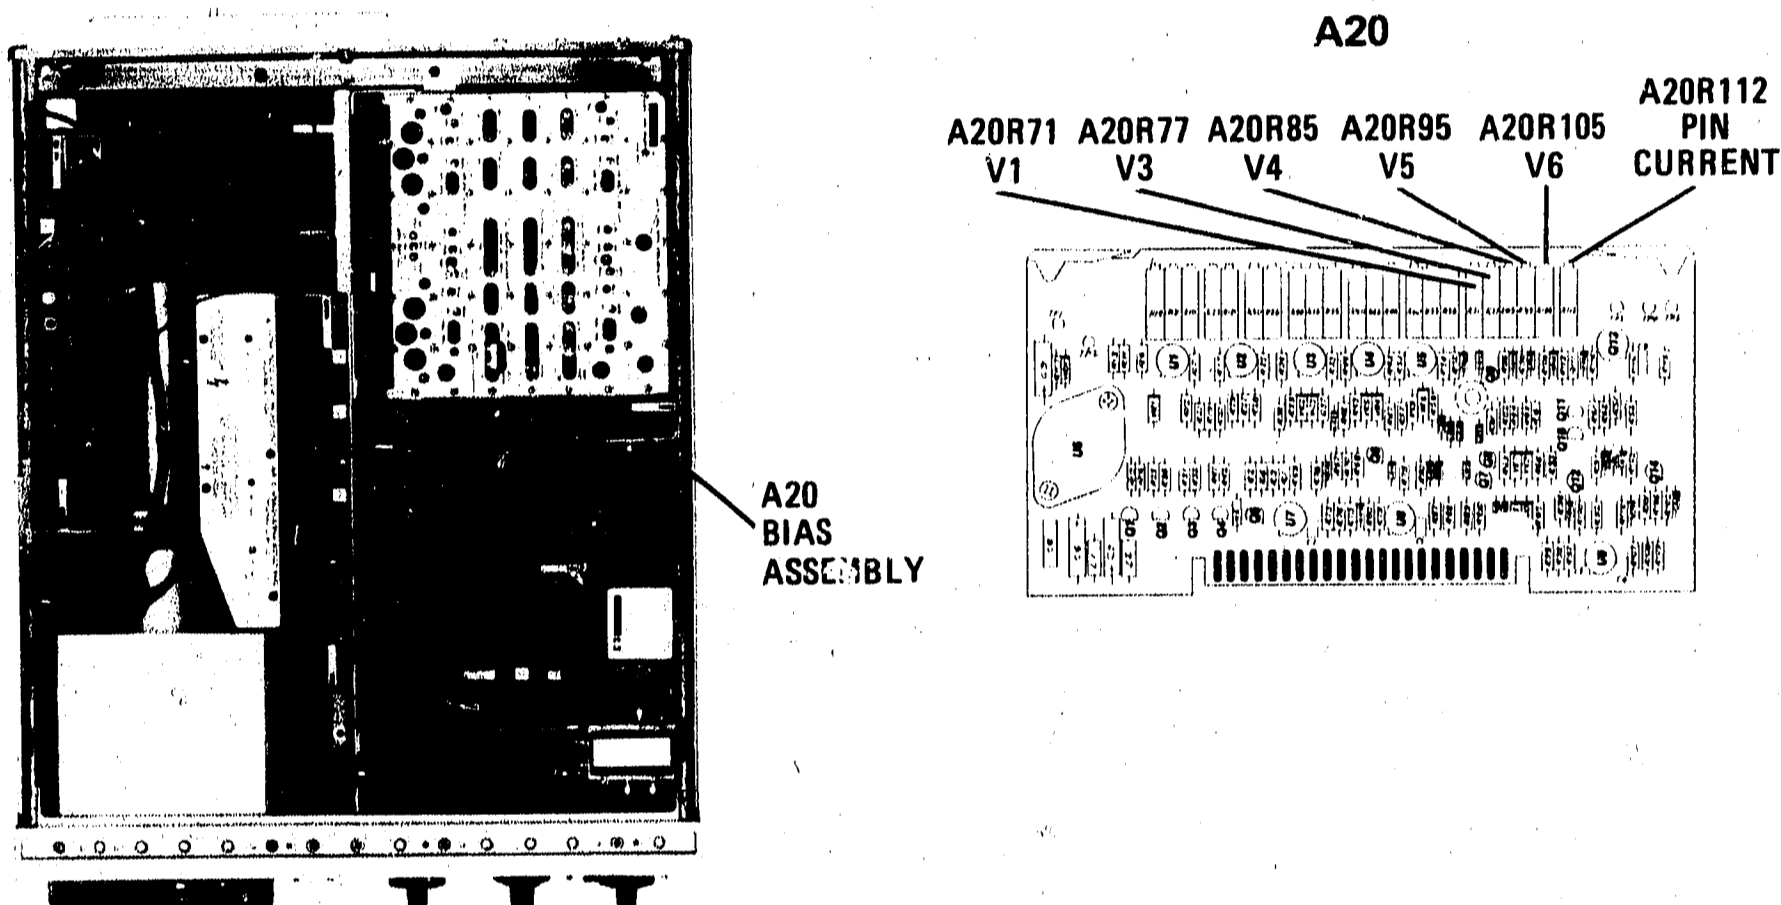

Figure 5-49. Preliminary Bias Adjustment Locations
5. Set AMPLITUDE SCALE to 2 dB. Adjust A20R85 V4 (Figure 5-49) over full range and note position for minimum ripple on CRT trace. Set A20R85 V4 for minimum ripple.